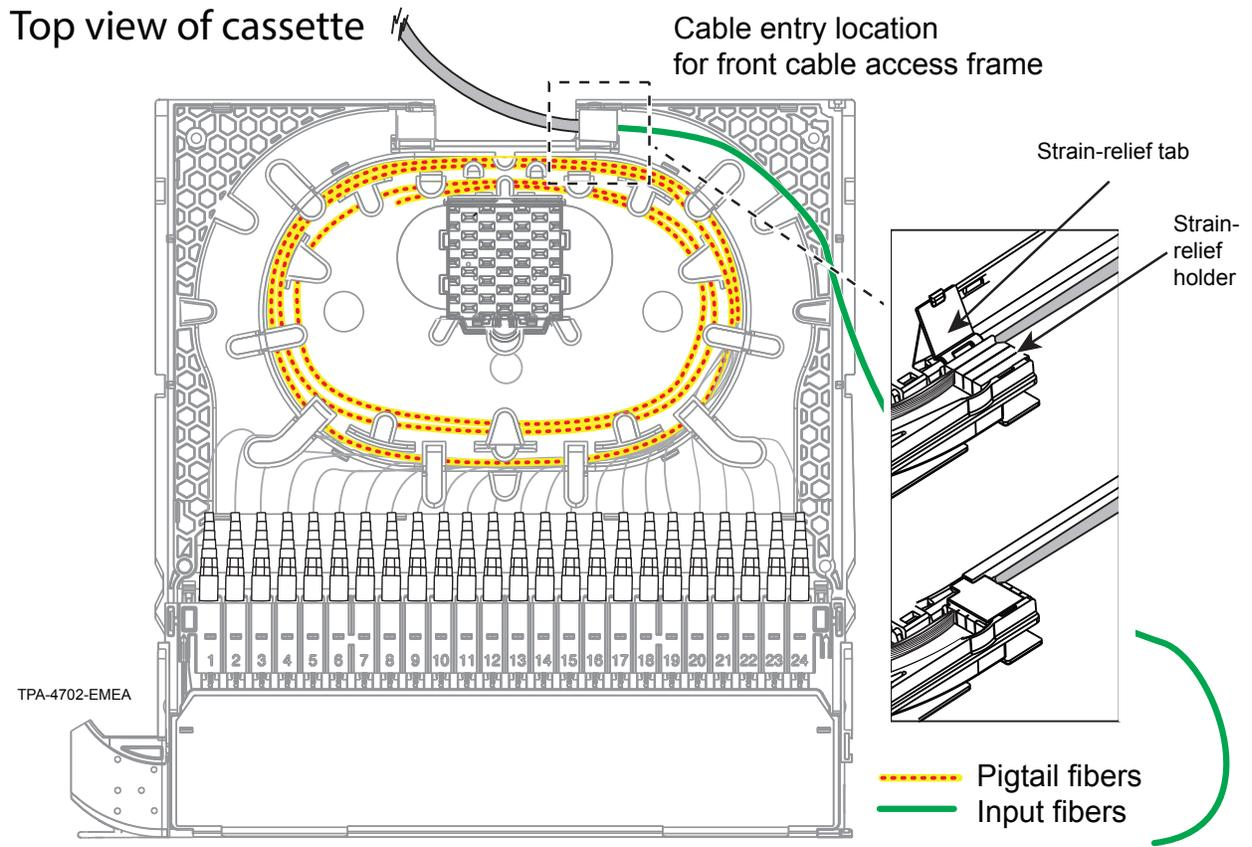

Figure 37
**Step 5:** Secure the end of the transport tube holding the input fibers in the strain-relief holder (Figure 37). Press the strain-relief tab closed to secure the fibers.